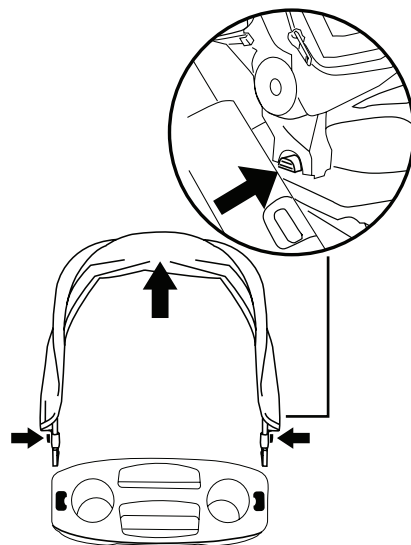

Fig. 6e
- **To remove the canopy:** Press the tab on each end of the canopy, and lift up the entire canopy from the bottom ends slots of the child tray (Fig. 6e).